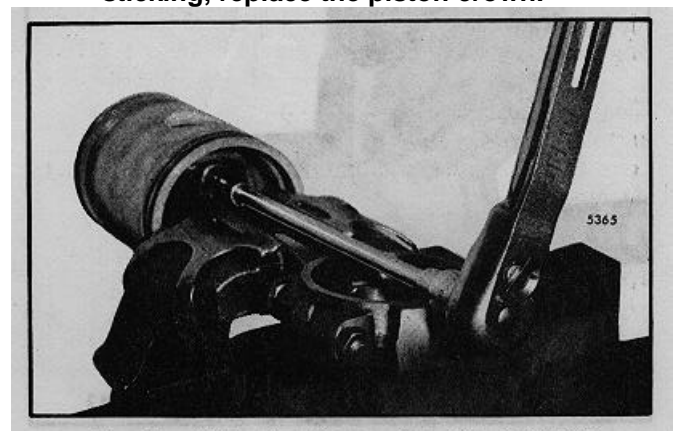

Fig. 8. Tightening Connecting Rod to Piston Pin Bolts
7. Install and tighten the bolts finger tight. Then clamp the connecting rod in a vise and tighten the bolts to 55-60 lb-ft (75-81 Nm) torque (Fig. 8). Do not exceed this torque.